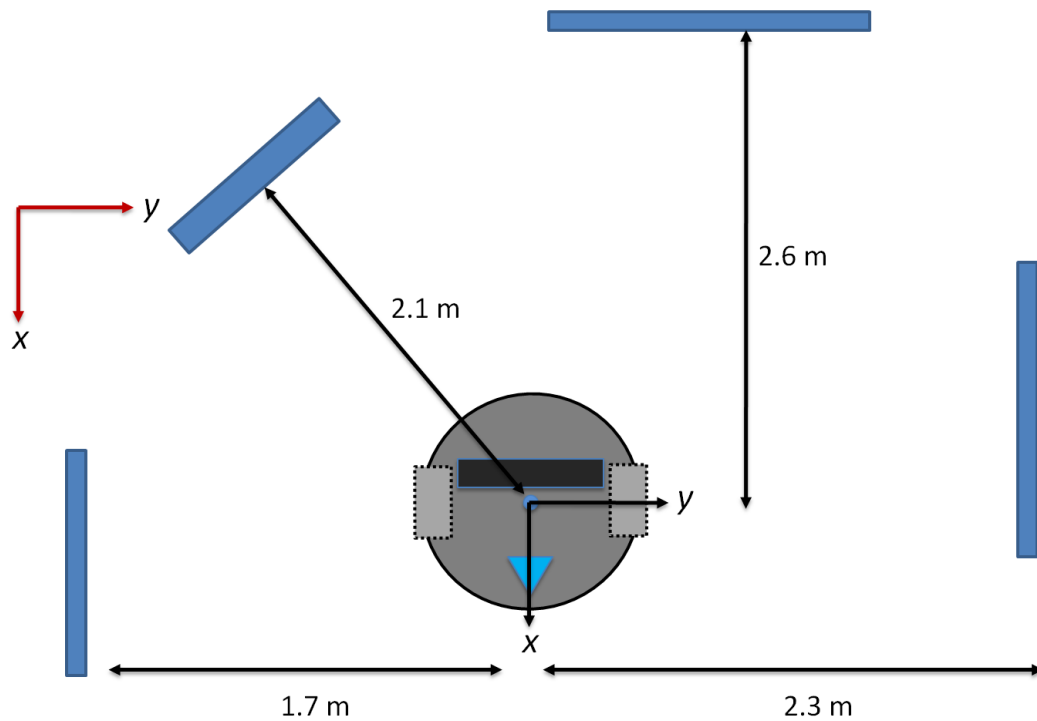
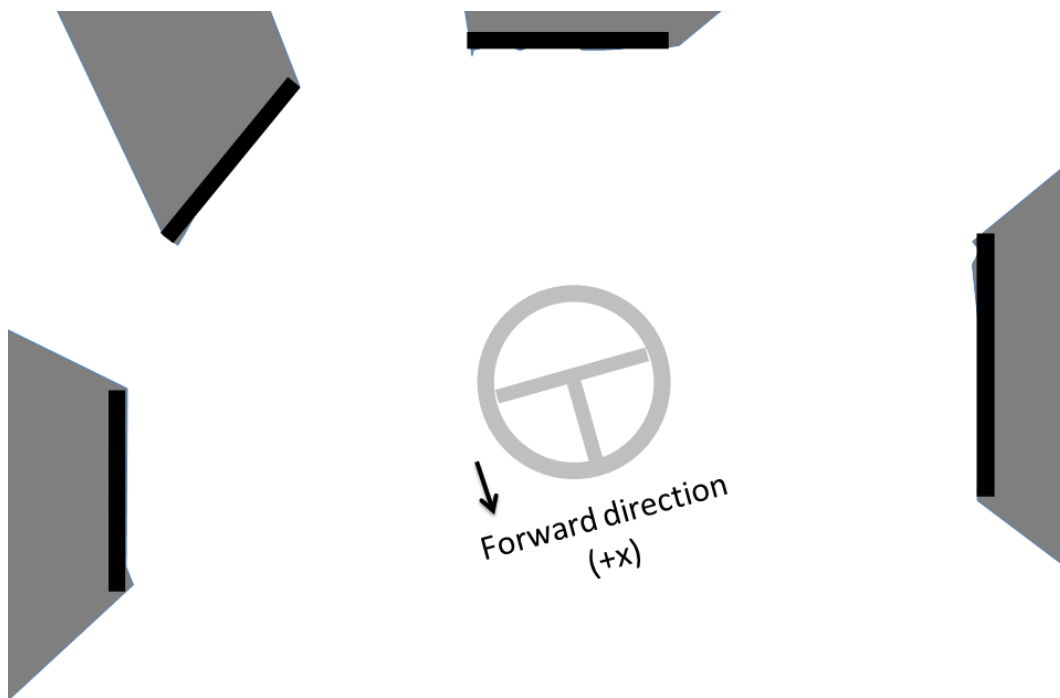

Figure 2.2: Configuration of the objects surrounding the QBot 2e for autonomous mapping.
Figure 2.3: Generated map (zoomed in) and the current robot pose (position and orientation).
Note: The robot is shown on the generated map image window by a light gray circular shape as shown in Figure 2.3 with the forward direction indicated in the figure. You can change the scale of the robot on the map using *RobotScale* parameter in the To Display block diagram in the model.
5. Configure four objects surrounding the QBot 2e as in Figure 2.2. Now leaving $v_c = 0$, set ω to 0.3. Put the robot in a known initial configuration (facing the x axis on your map, shown in Figure 2.2), run the model and enable the manual switch once the robot is ready. Allow the robot to rotate twice and then disable the manual switch. Compare the generated map to the actual environment and examine any errors. The ideal generated map look similar to the one shown in Figure 2.3.